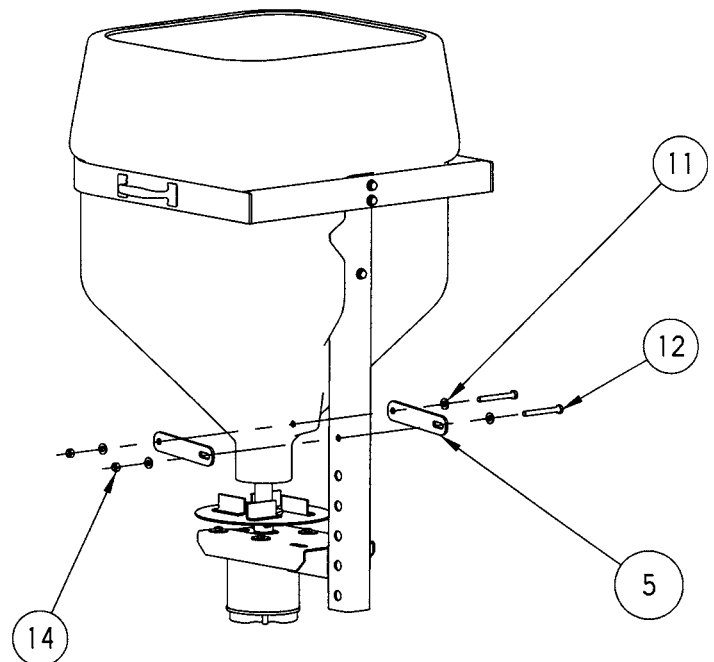

Fig. 4
See Fig. 4
Install bottom support straps (5) by sliding 5/16-18 x 3 HH cap screws through the support straps, frame and hopper as shown in Fig. 4. **CAUTION:** do not over tighten the screw that goes through the hopper; you may damage the hopper. At this time the motor should be aligned so that the auger does not rub any part of the hopper outlet. Move the motor around with the screws loose and turn the auger BY HAND to check for rubbing. When the motor is in the correct position tighten the motor screws and recheck one more time for rubbing.